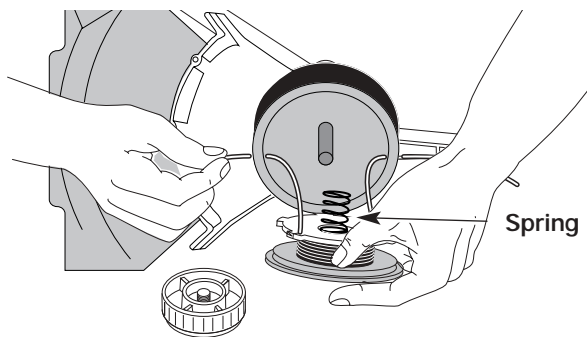

Figure 35
13. Insert the ends of the line through the eyelets in the outer spool and place inner reel with spring inside the outer spool. See Figure 35. Push the inner reel and outer spool together. While holding the inner reel and outer spool, grasp the ends and pull firmly to release the line from the holding slots in the reel.
5. Insert the ends of the line through the eyelets in the outer spool. See Figure 35.